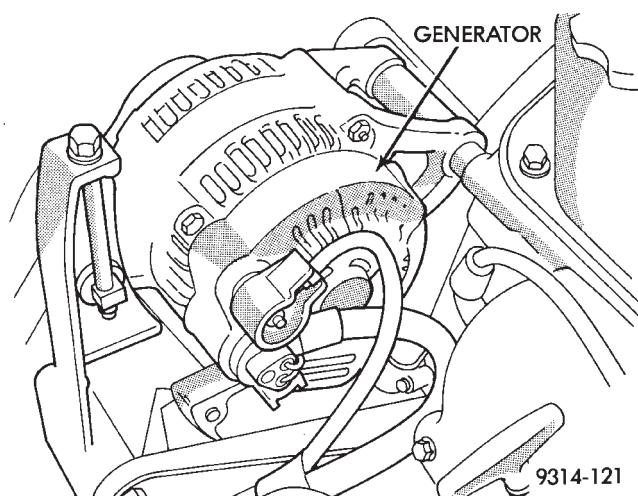

Fig. 16 Generator
(16) Ensure the accessory drive belt tension is correct.
(17) Check for loose or corroded connections at the generator (Fig. 16).